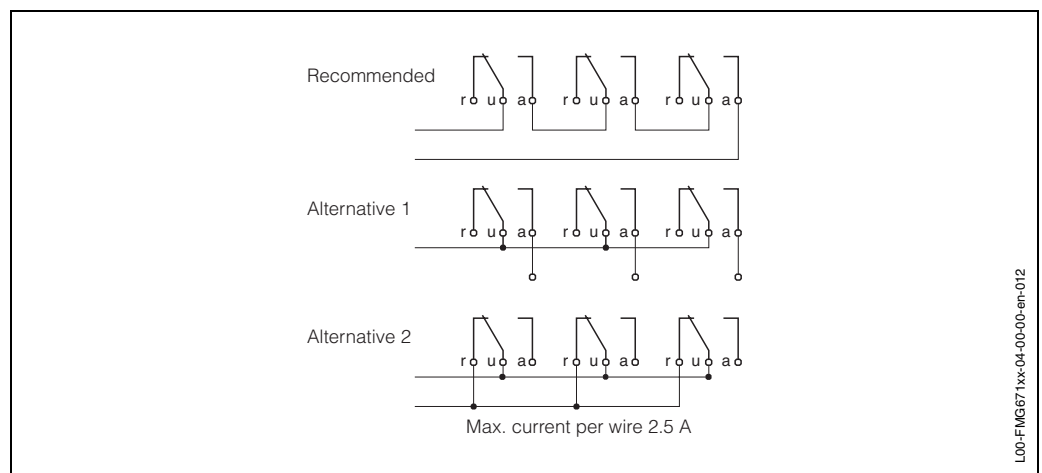

Fig. 2.15 Suggestions for wiring together relays and alarms
- Alarms and limit switch relays can be connected as shown in Fig. 2.15